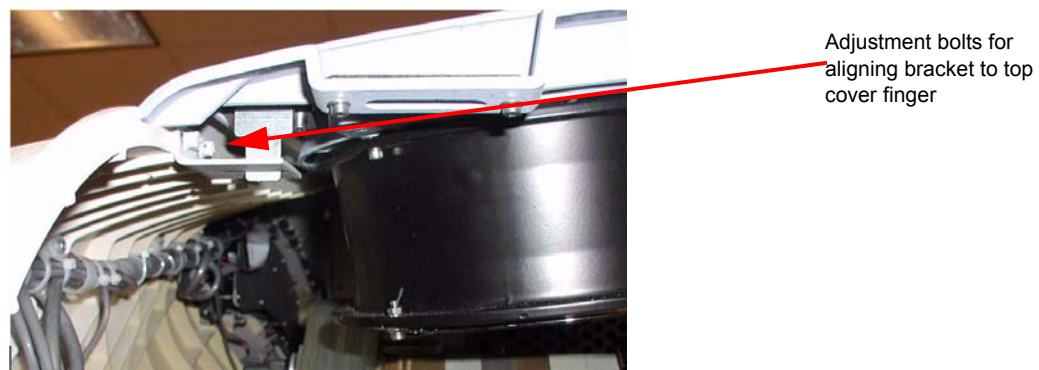

Figure 4-10 Top Cover Fingers
- 3.) The brackets on the front/rear covers for the fingers on the outer edge of the top covers are adjustable using a 3mm hex wrench and sliding the bracket till it lines up with the top cover finger. (See Figure 4-10)